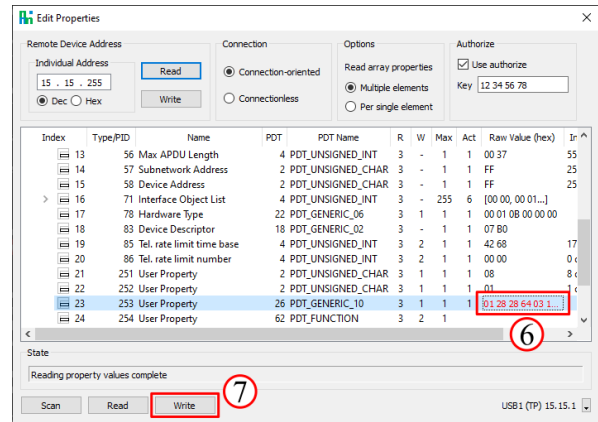

Figure 36. Changing a Property
To edit a property, double click on its *Raw Value* ⑥ and change it. Changed values will be marked in red as shown in figure 36.